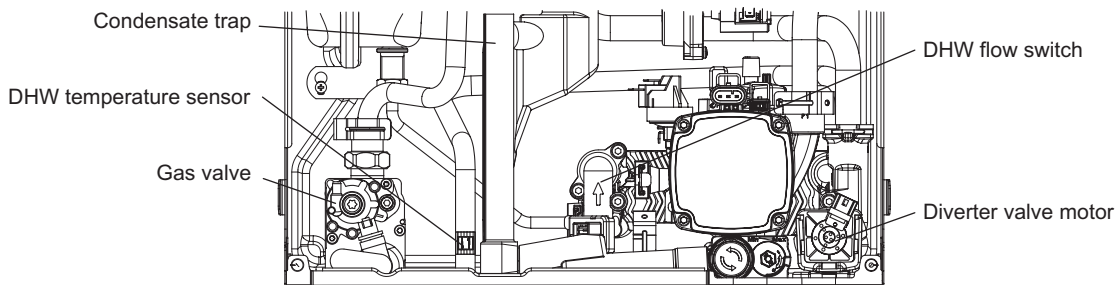

Fig. 7.2
7.10 DHW TEMPERATURE SENSOR - Fig. 7.2
7.12 DHW FLOW SWITCH - Fig. 7.2
7.21 DIVERTER VALVE MOTOR - Fig. 7.2
7.22 DIVERTER VALVE CARTRIDGE - Fig. 7.2